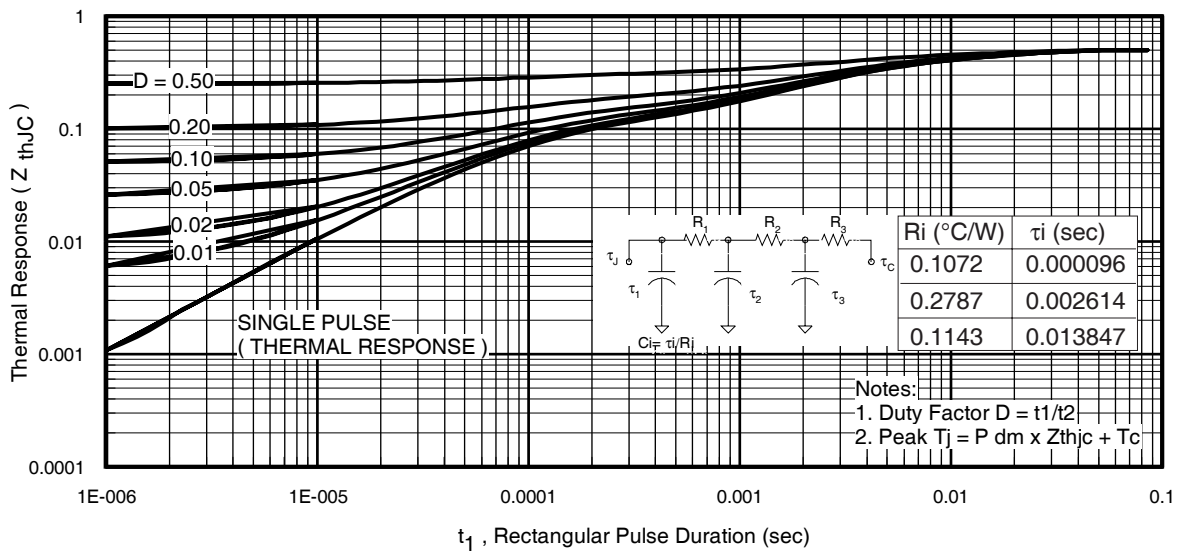

Fig 11. Maximum Effective Transient Thermal Impedance, Junction-to-Case
- ① Repetitive rating; pulse width limited by max. junction temperature. (See fig. 11).
- ② Limited by T_{Jmax} ; starting $T_J = 25^\circ\text{C}$, $L = 0.026\text{mH}$, $R_G = 25\Omega$, $I_{AS} = 110A$, $V_{GS} = 10V$.
$Z_{thJC}(D, t_{av})$ = Transient thermal resistance, see figure 11)